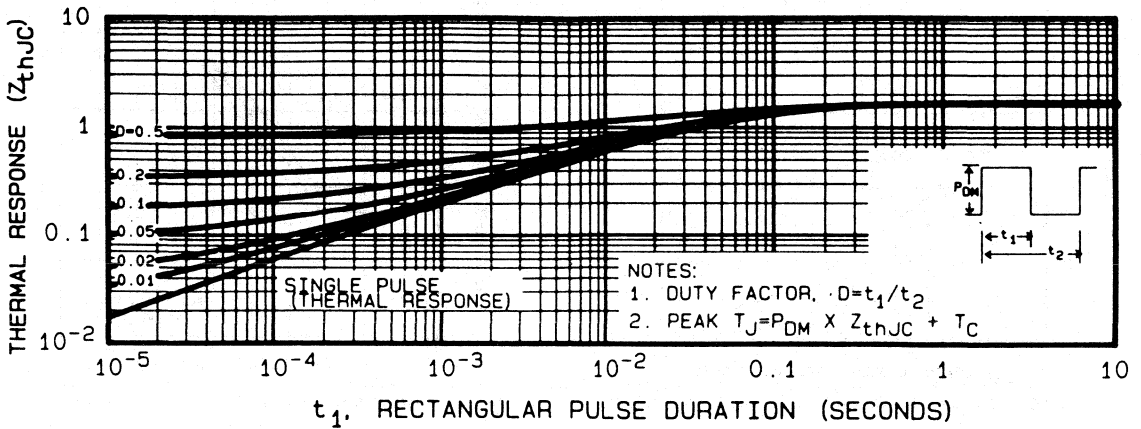

Fig. 5 — Maximum Effective Transient Thermal Impedance, Junction-to-Case Vs. Pulse Duration
3. Repetitive rating: Pulse width limited by maximum junction temperature. See Transient Thermal Impedance Curve (Figure 5).
3. Repetitive Rating: Pulse width limited by max. junction temperature. See Transient Thermal Impedance Curve (Figure 5)